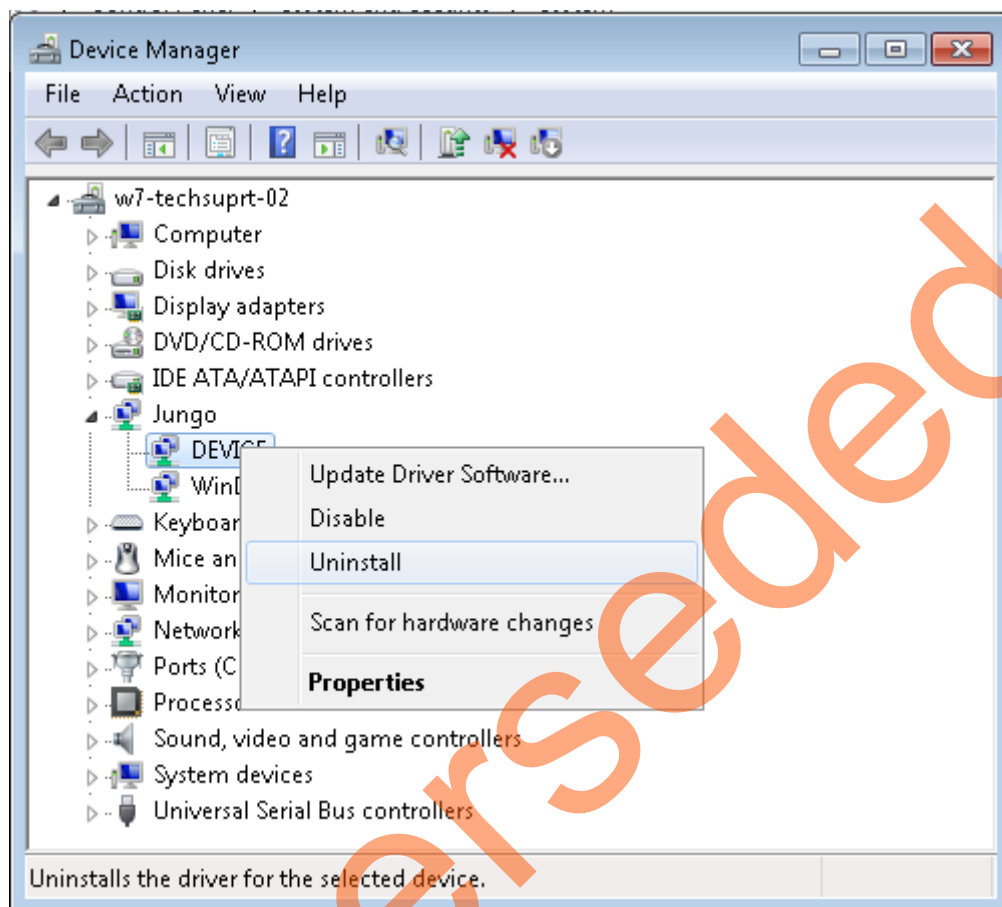

Figure 48 • Device Uninstall
- a. To uninstall the previous Jungo drivers, go to device manager and right-click on DEVICE as shown in Figure 48. The DEVICE uninstall window is displayed.